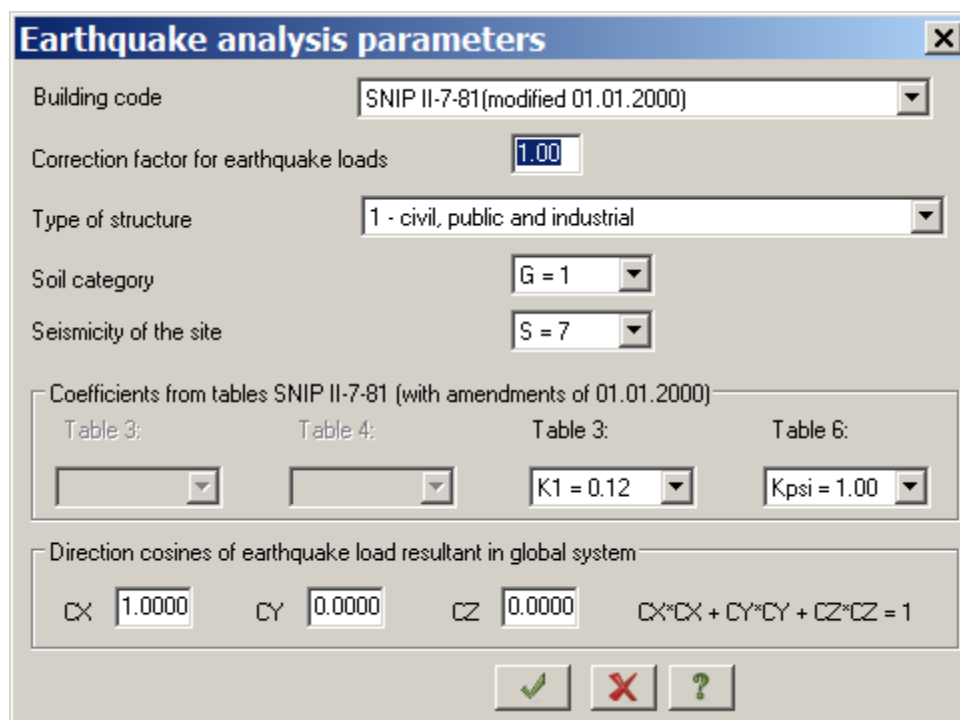

Figure 3.25 **Earthquake analysis parameters** dialog box
- dynamic load type – **Earthquake /01.01.2000/SP 14.13330.2011/ (35)**;
- ⇒ In the **Earthquake analysis parameters** dialog box (see Fig.3.25), define the following data: